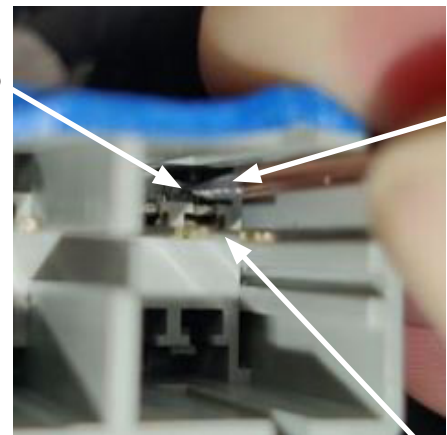
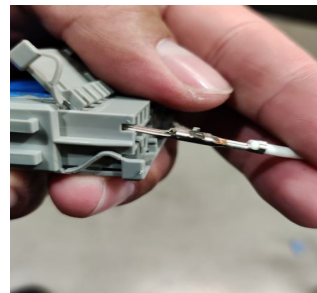

figure 11
figure 12
7. Moving on to the inside of the connector, using a small pick, lift the up the holding tab (figure 11) and the male pin terminal will slide out the back of the connector (figure 12). Repeat until all pin terminals have been removed from the connector.